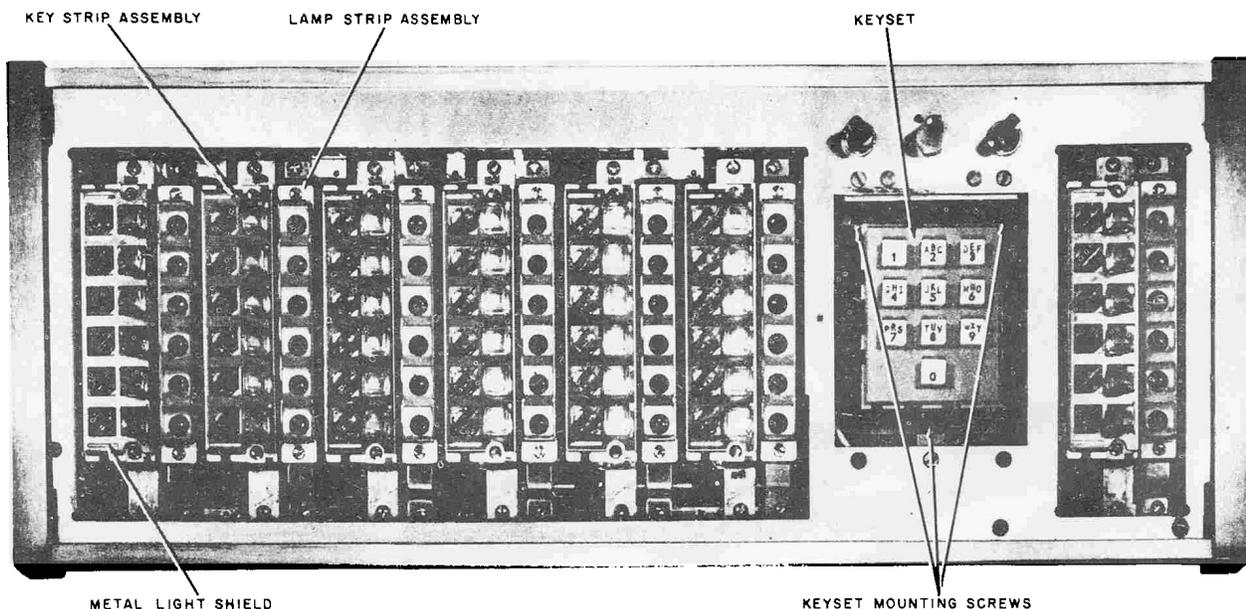

Figure 3. Attendant Turret, Showing Face Assembly Removed.
2.04 To replace lamps in the key strip assemblies, it is necessary to remove the metal light shield by gently prying up at each end (Figure 3). These lamps may then be removed by gently prying them out of their spring clips. When inserting new lamps, press only on the glass portion of the lamp. Pressure on the metal base may cause breakage. For lamps in the lamp strip assembly, a lamp extractor (Automatic Electric Company part number H-885224-1) must be used.